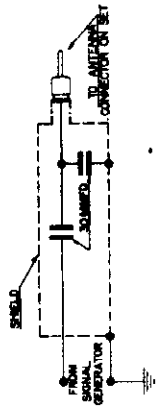

Fig. 9. Dummy Antenna
- 3—Connect signal generator leads through dummy, illustrated in Figure 9, to antenna receptacle on the receiver. This is important.
Fig. 9 shows the schematic of a recommended dummy antenna, closely resembling actual antenna capacity, to be used in series with signal generator leads when aligning the R.F. section of the receiver.
- 1—Connect signal generator leads through dummy, illustrated in Fig. 9, to antenna lead in socket on receiver. This is important.